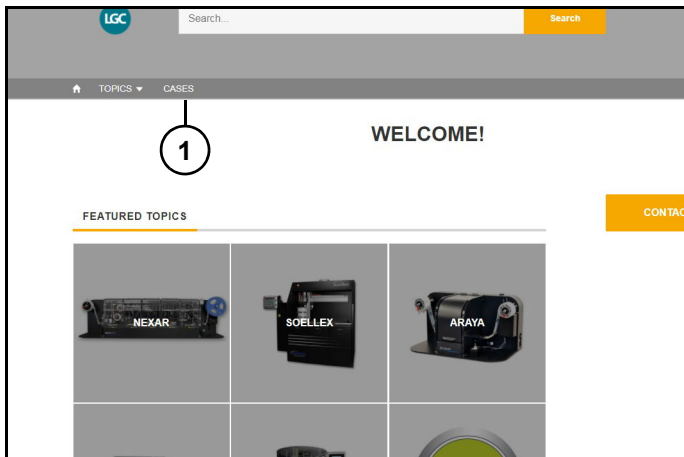

Figure 6
1. Click "Cases" (1) (Figure 6).